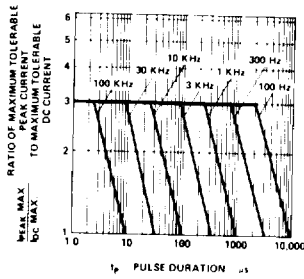

Figure 5. Maximum Tolerable Peak Current vs. Pulse Duration. (I_{DC} MAX as per MAX Ratings)
1. See Figure 5 (Red/Orange), 10 (Yellow), or 15 (Green) to establish pulsed operating conditions.